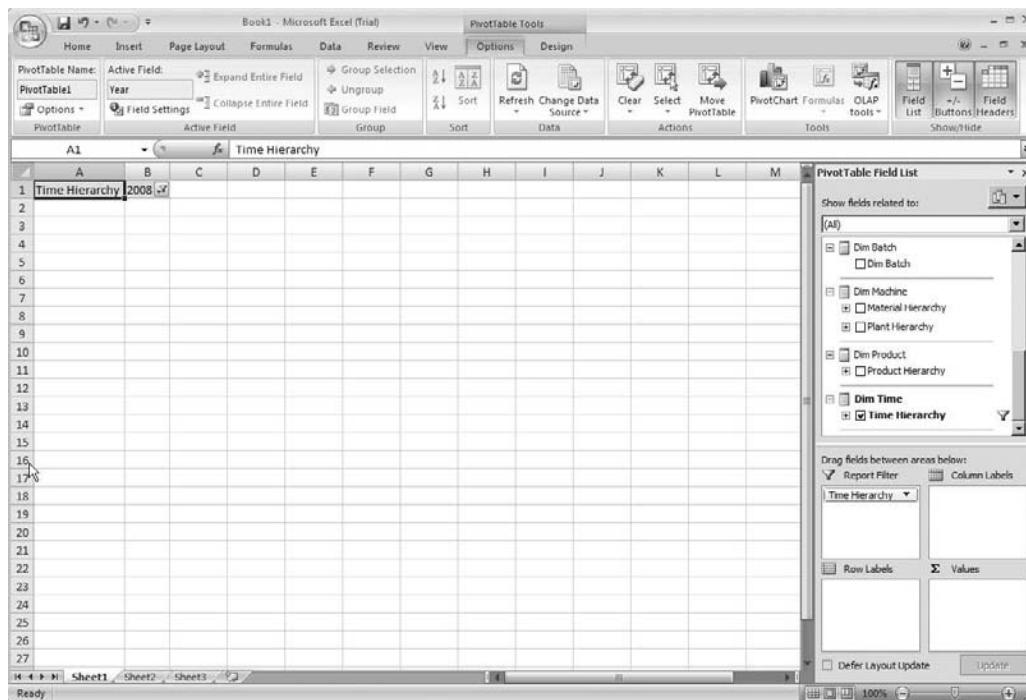

Figure 19-8 A filter added to the pivot table layout
17. In the PivotTable Field List, locate the Time Hierarchy. Drag the Time Hierarchy and drop it on the Report Filter area. This creates a report filter in the upper-left corner of the spreadsheet, as shown in Figure 19-8.